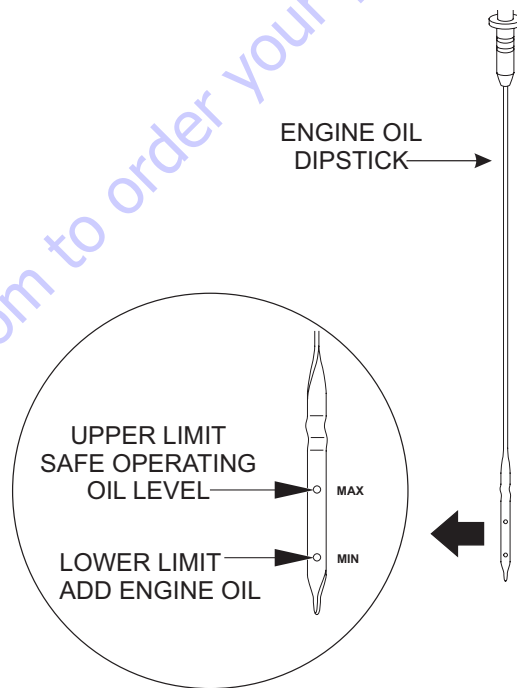

Figure 36. Checking Engine Oil Level
8. Replace engine oil with recommended type oil as listed in Table 6. For engine oil capacity, see Table 2 (engine specifications). Fill to upper limit as shown in Figure 36.